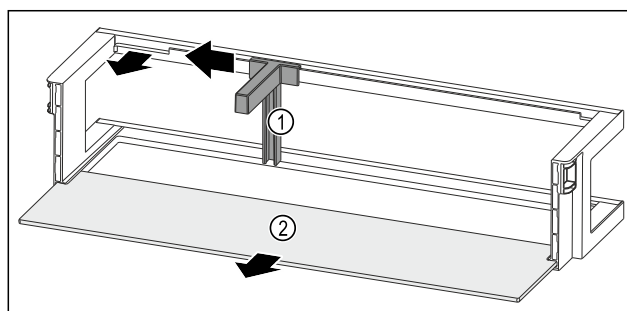

Fig. 86 Door rack with bottle holder and shelf
- Slide the bottle holder Fig. 86 (1) to the side as far as the recess.
- Remove the bottle holder Fig. 86 (1).
- Remove the shelf Fig. 86 (2).